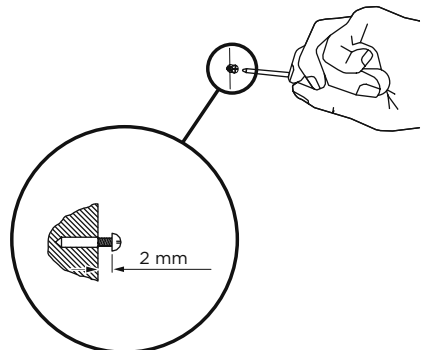
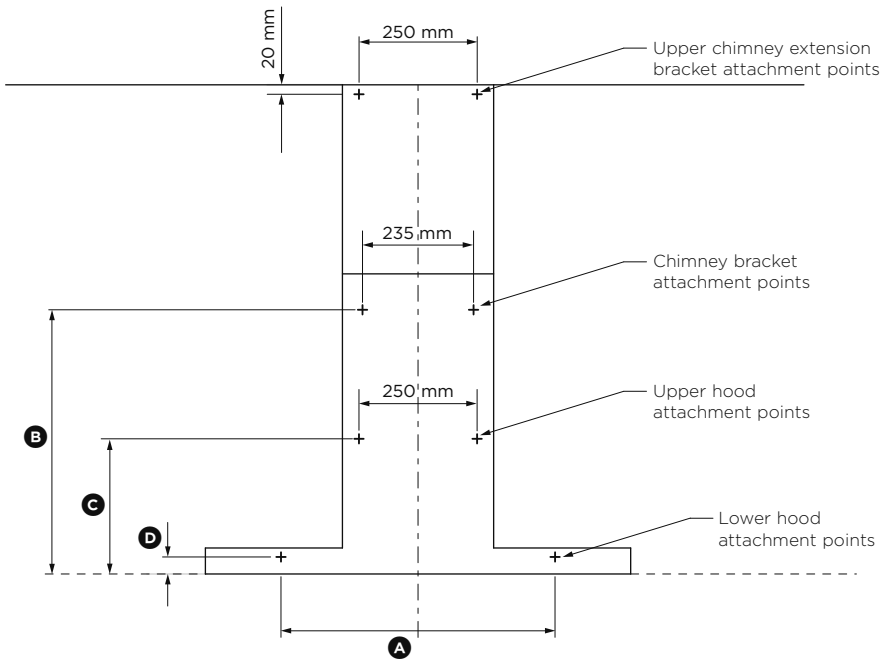

Fig.1
Fig.2
- Ensure that the voltage (V) and the frequency (Hz) indicated on the serial plate match the voltage and frequency at the installation site.
② Attach chimney brackets and hood mounting screws
- Attach the chimney bracket and upper chimney bracket (if using the upper chimney) in the locations shown in Fig.2 and 3. Use the 30 mm screws and expansion plugs if attaching to masonry.
- Attach the upper hood mounting screws in the locations shown in Fig.2 and 3. Use the 30 mm screws and expansion plugs if attaching to masonry. Ensure that there is a 2 mm gap between the screw head and the wall - see Fig.1.